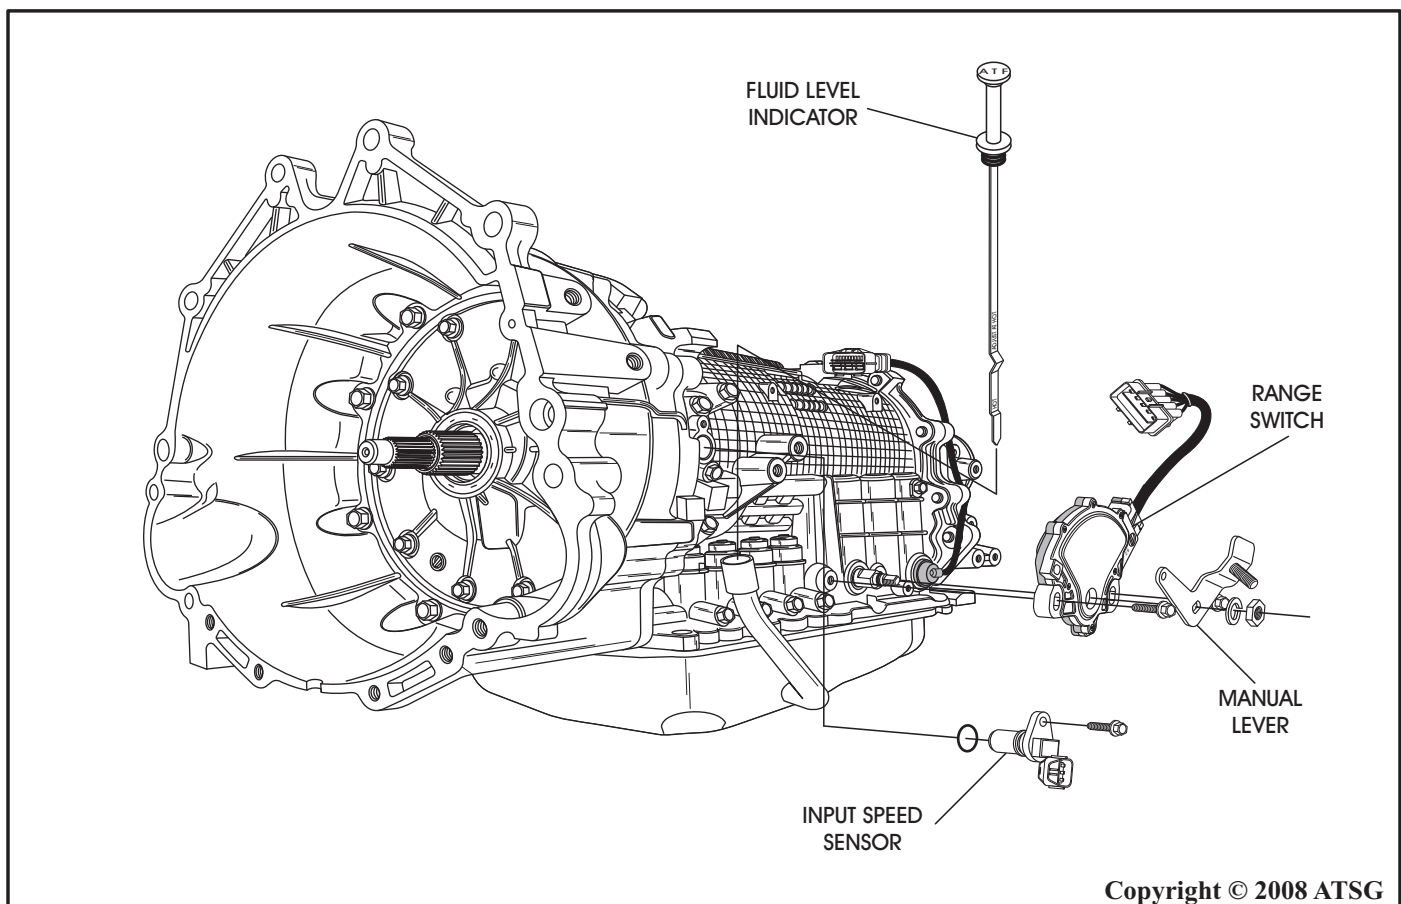

Figure 238
9. Install new "O" ring on the input speed sensor, lube with a small amount of Trans-Jel®, install into case bore, as shown in Figure 238.
11. Install the transmission range switch, as shown in Figure 238, and torque the retaining bolts to 11 N•m (97 in.lb.).
12. Install the external manual shift lever, as shown in Figure 238, and torque the retaining nut to 22 N•m (16 ft.lb.).
13. Install the fluid level indicator into the tube, as shown in Figure 238.